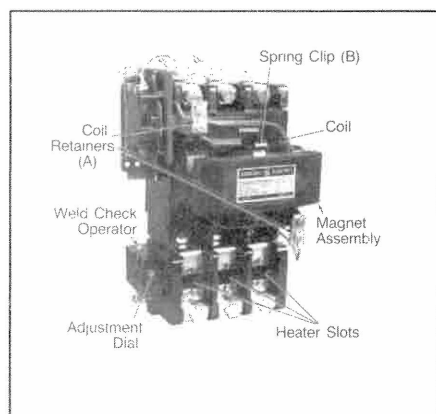

Figure 1.
8. The ultimate tripping current of the installed relay heater can be adjusted $\pm 10\%$ by using the adjustment dial, shown in Figure 1.
2. Press against coil while pulling up slightly on coil retainers (A—Figure 1) and remove retainers away from coil.
4. Withdraw spring clip (B—Figure 1) and remove armature from movable arm.